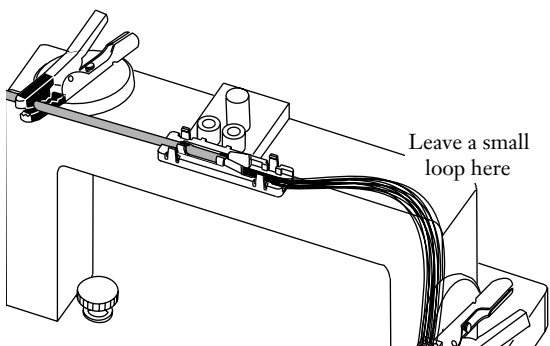

Figure 17
*Leave a small fiber loop between the BTF body and the 900  $\mu\text{m}$  assembly to prevent fiber breakage during later steps in this procedure (Figure 17).*